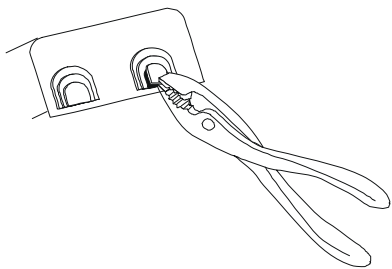

Figure 5: Removing the Knockouts for Conduit or Wire Entry
2. Make wiring connections (See *Wiring* section). Remove the appropriate knockouts on the terminal cover for either conduit or wire entry. (See Figure 5.)
8. Make wiring connections. (See *Wiring* section.) Remove the appropriate knockouts on the terminal cover for conduit entry. (See Figure 5.)